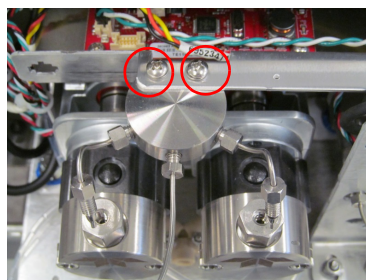

Figure 5-23 Location of tee mounting screws
9. Using a phillips screwdriver, remove the 'Y' fitting located above pump heads (Figure 5-23).